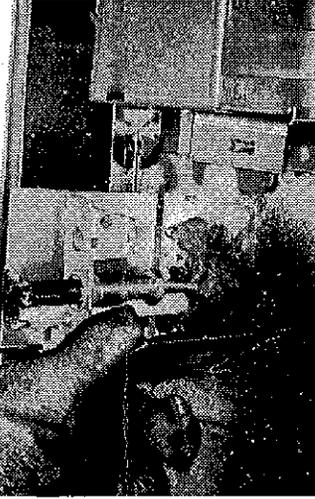

Figure 5.14 Bending Pilot Shield
- Bend out pilot shield. See Figure 5.14